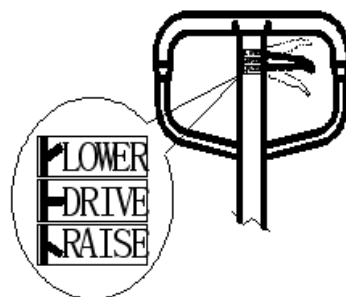

Fig. 3. LOWER: lowering – down position; DRIVE: movement – middle position; RAISE: lifting – up position.
You can see a small control handle (119) over the handle on the manual truck for transportation of goods on pallets. It can be adjusted into three positions (see Fig. 3). Set it in the Middle position after the operation. These three positions were properly configured before shipping from the factory. If changes occur at the emergency situation you can reload them in accordance with the following steps: